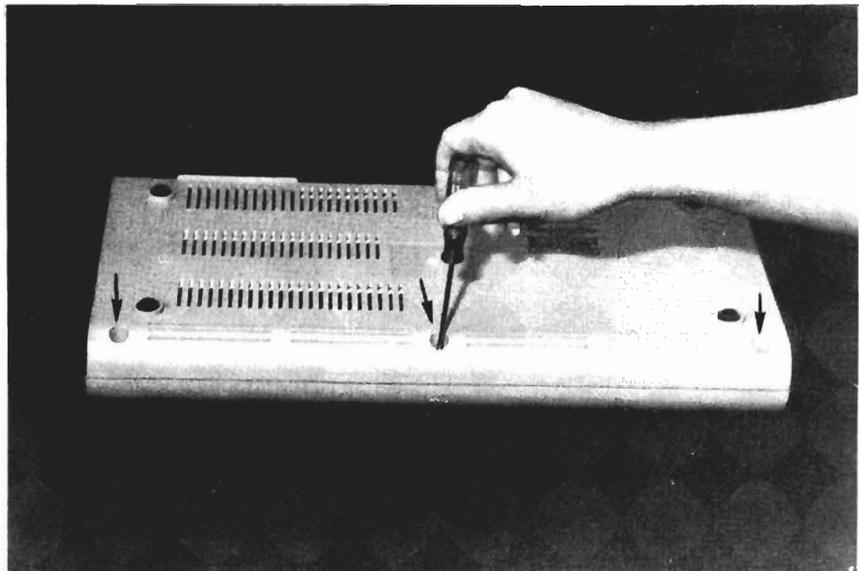

Fig. 3-7. Removing the system unit screws.
3. Remove the three phillips-head screws (Fig. 3-7).